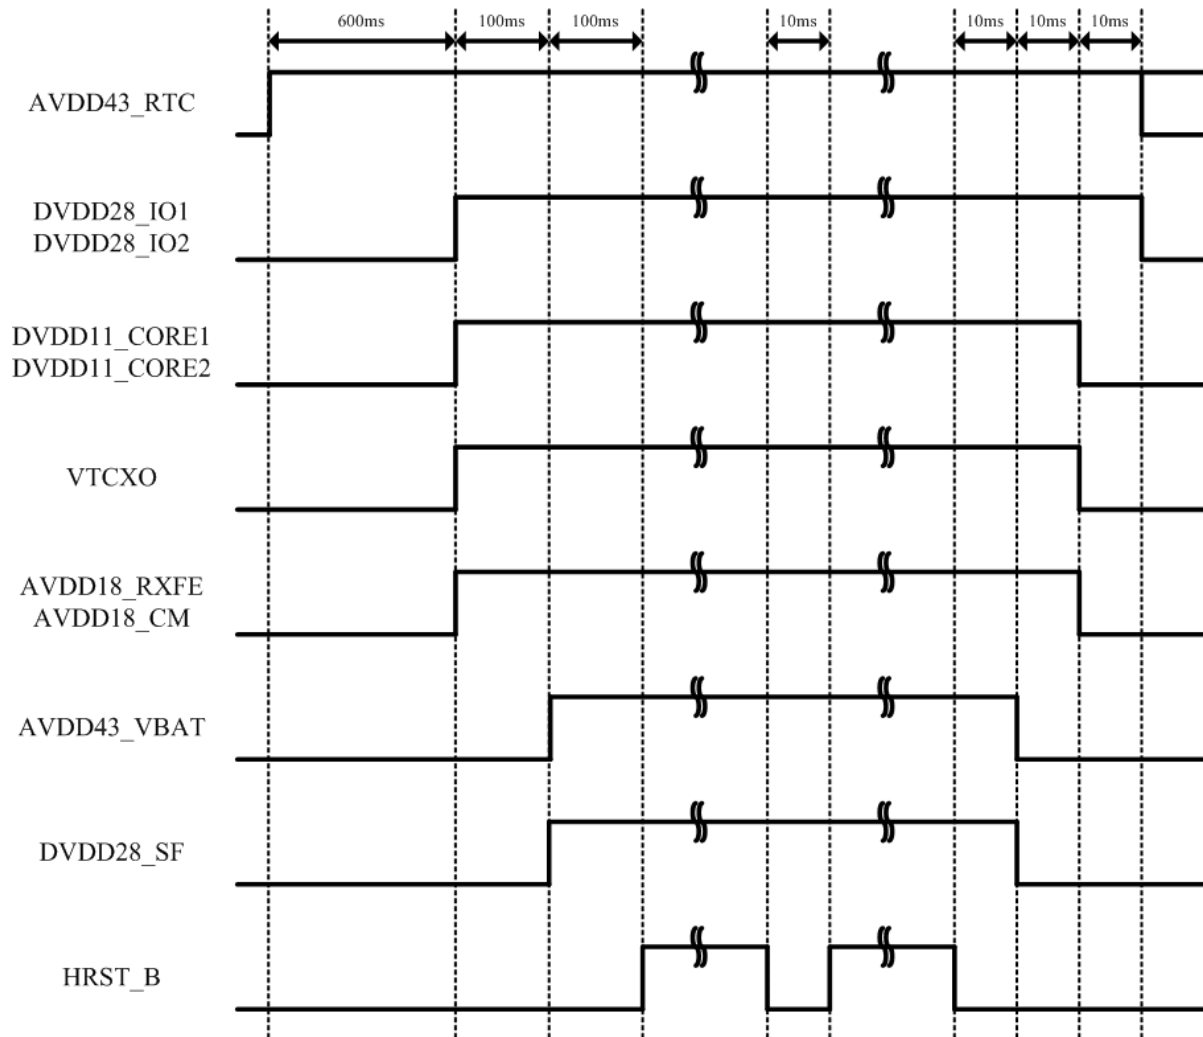

Figure 5-6: Power on/off sequence for external LDO mode
- The power on and power off sequence of external PMU mode is shown in Figure 5-6.